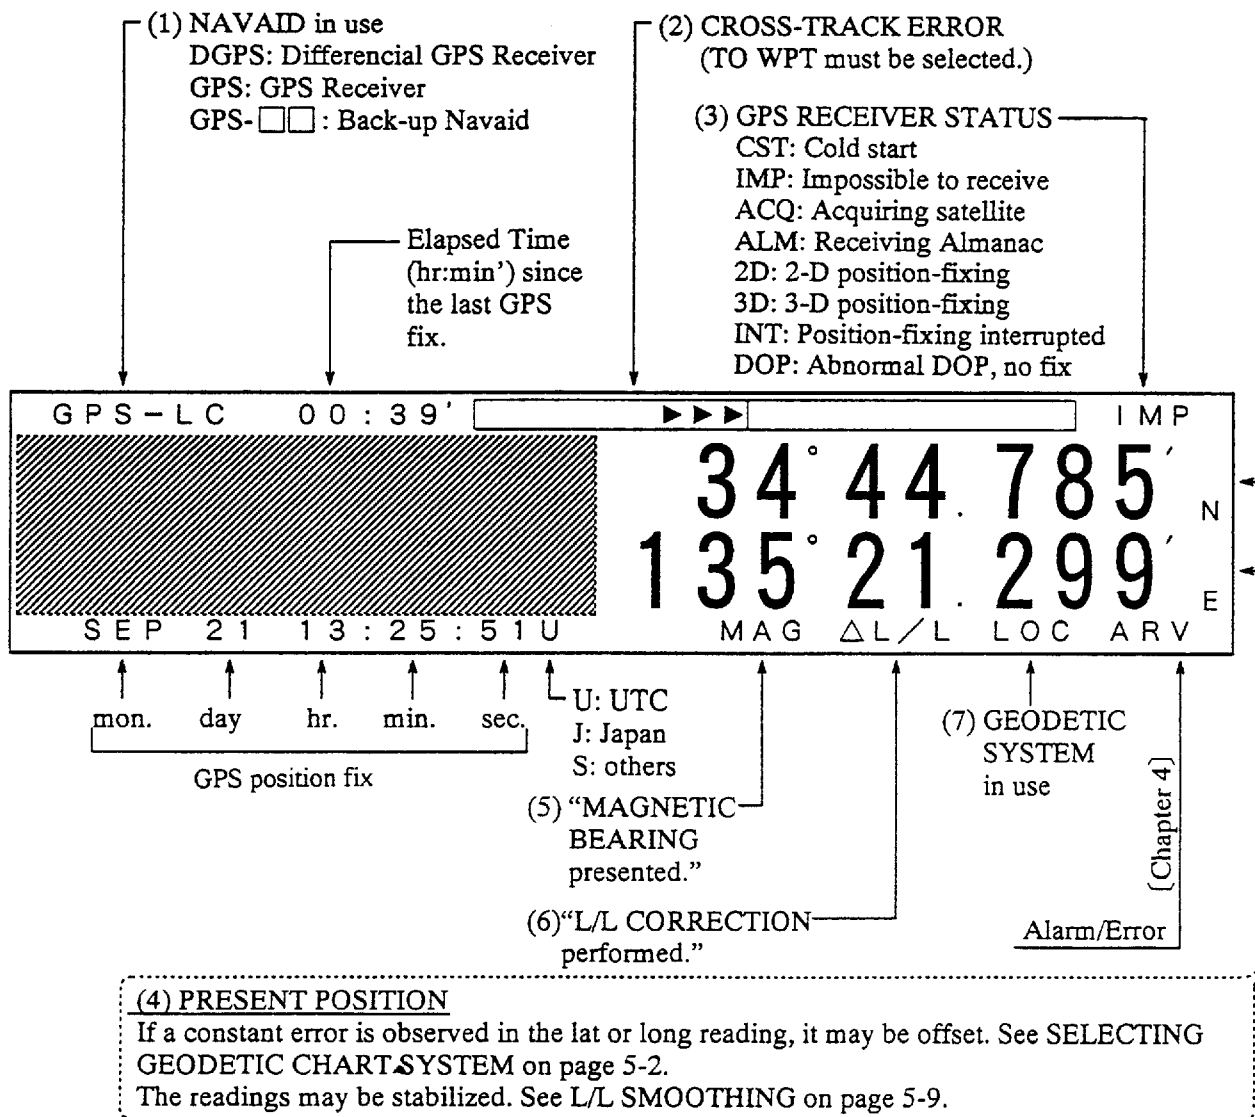

Figure 2-9 Typical position display
Detailed descriptions of items 1 through 7 in Figure 2-9 follow.
① Position-fixing system in use